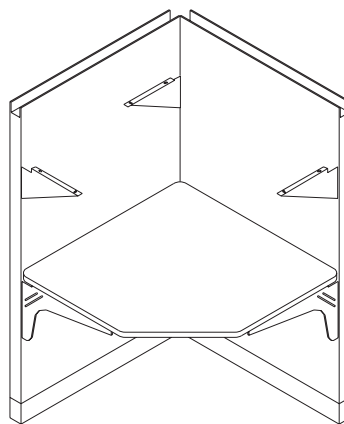
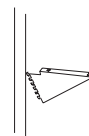
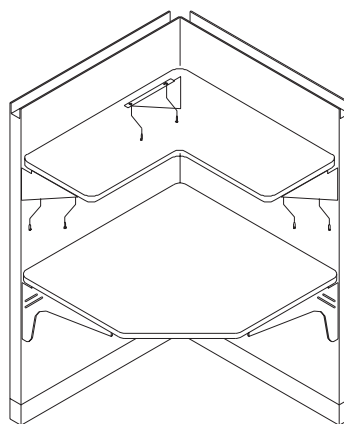

FIG. 1
FIG. 2
FIG. 3
2. You will receive (3) 14" deep cantilever brackets with the corner bookshelf: (2) left-hand brackets and one right-hand. The right-hand bracket will install at the right end of the corner bookshelf. One of the left-hand brackets will install at the left end of the corner bookshelf, and the other left-hand bracket will install in the back corner off the right side panel (Figure 1).
3. Install the (3) cantilever brackets in the slotted trimrail about 2" below the pencil mark you made in step 1.
4. Holding the front edge of the cantilever bracket higher than the rear edge (Figure 2), slide the top safety tooth into the appropriate slot on the trimrail.
7. Repeat the installation for all (3) cantilever brackets.
8. Set the corner bookshelf surface on the cantilever brackets and attach it to the brackets using (2) #12 x 1" screws in each bracket (Figure 3).